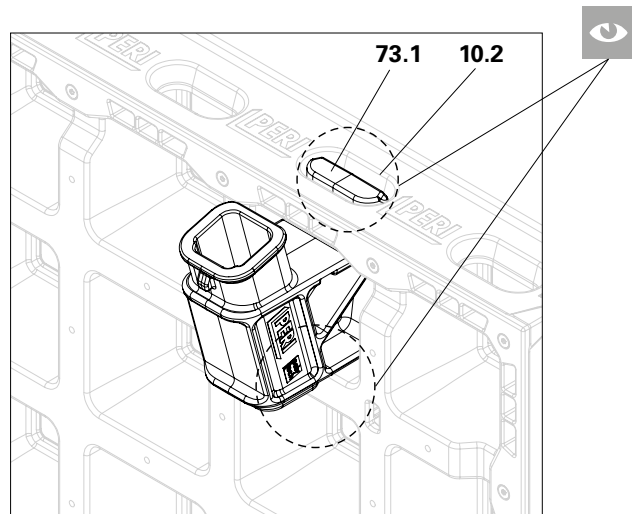

Fig. B4.07
2. Turn the DUO front post holder (**73**) into the grip hole until the bracket (**73.1**) engages and the lower ring of the DUO front post holder (**73**) is resting on the frame of the panel (**10**). (Fig. B4.07)